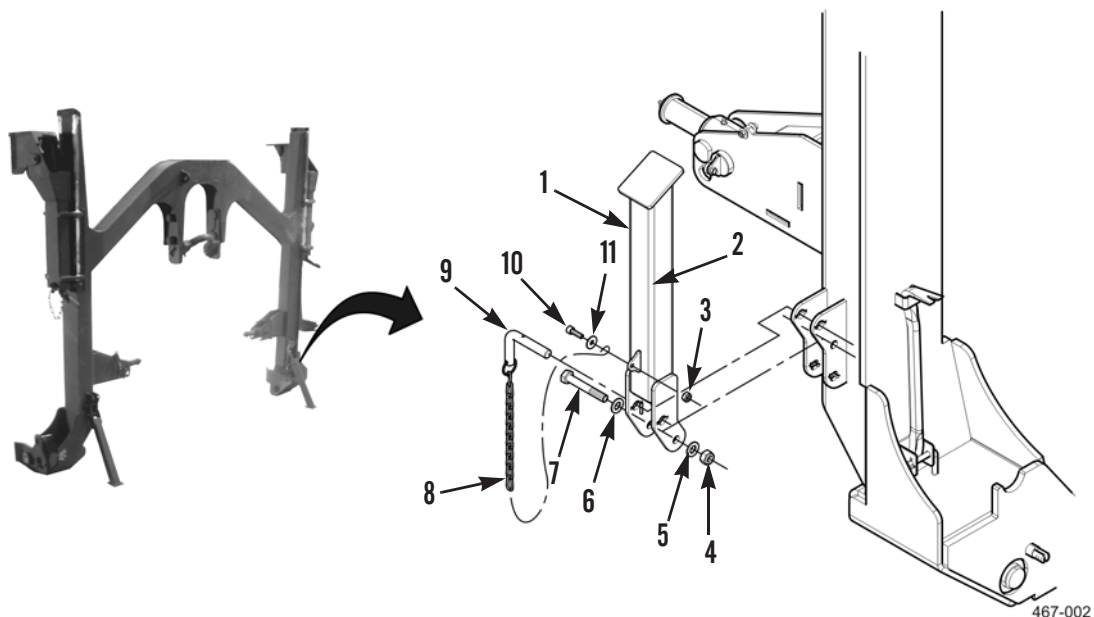

Figure 1. Stand.
1. Remove locknut (Figure 1, Item 3), bolt (Figure 1, Item 10), washer (Figure 1, Item 11), and chain (Figure 1, Item 8) from stand (Figure 1, Item 1). Discard locknut.
2. Remove locking pin (Figure 1, Item 9) with attached chain (Figure 1, Item 8) from lift frame (Figure 1, Item 2).
3. Remove locknut (Figure 1, Item 4), washer (Figure 1, Item 5), bolt (Figure 1, Item 7), washer (Figure 1, Item 6), and stand (Figure 1, Item 1) from lift frame (Figure 1, Item 2). Discard locknut.
1. Install stand (Figure 1, Item 1), washer (Figure 1, Item 6), bolt (Figure 1, Item 7), washer (Figure 1, Item 5), and new locknut (Figure 1, Item 4) on lift frame (Figure 1, Item 2). Verify that stand tilts after tightening bolt.
2. Place stand in upright position and install locking pin (Figure 1, Item 9) with attached chain (Figure 1, Item 8) in lift frame (Figure 1, Item 2).